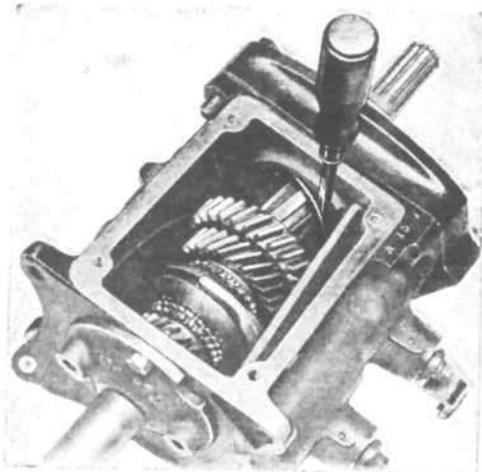

FIG. 203—REAR BEARING SNAP RING
t. Remove the snap ring (2) which holds the housing adapter to the transmission mainshaft bearing. Starting at the left side of the adapter where the snap ring boss is cut away, use a screw driver to work the ring free. See Fig. 203. Pull the adapter to the rear, separating it from the mainshaft bearing by tapping lightly on the rear of the mainshaft with a rawhide hammer.